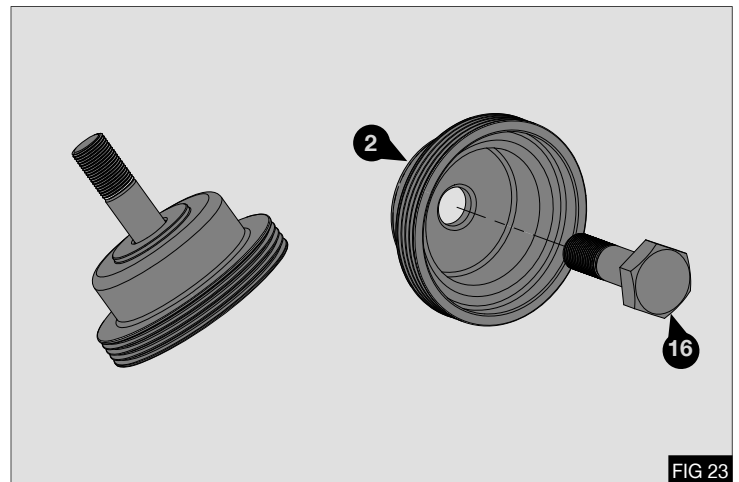

FIG 23
1. Assemble the supplied M20 x 66 bolt (16) into the additional drive pulley (2) - Fig 23